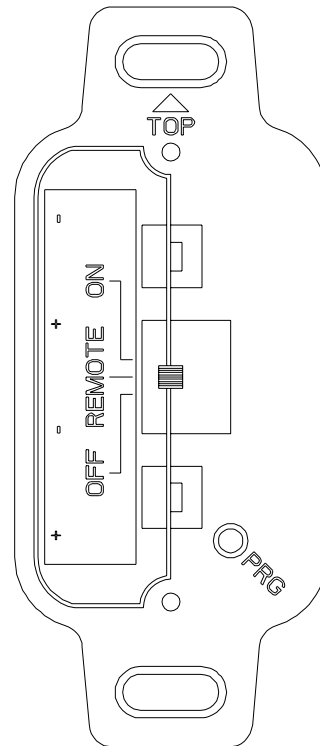

Figure 71.
3. Press the black initialization button (PRG) at the lower right of the battery box faceplate (fig. 71 page 34). The board will “beep” three times signalling a 10-second synchronization time limit.